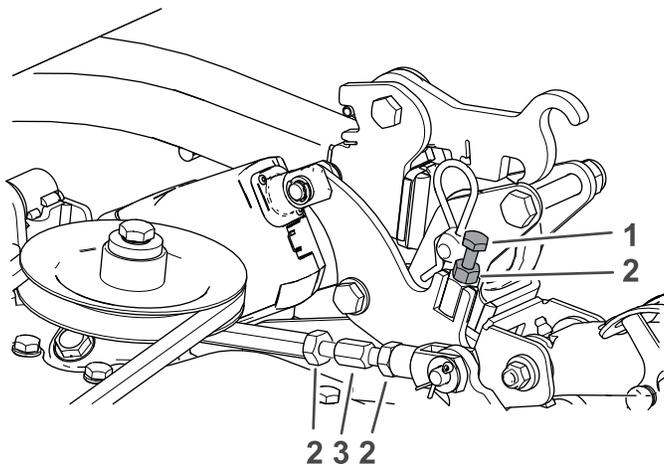
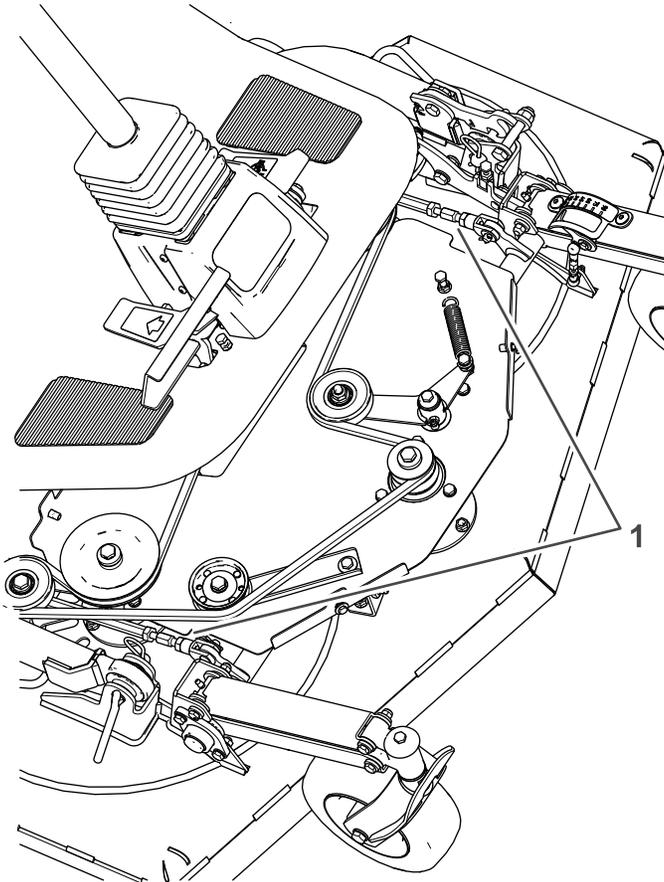

Figure 100
Figure 101
- B. To raise the front of the machine to 64 mm (2-1/2 inch), loosen the jam nut and adjust the adjustment bolt; refer to Figure 100.
C. To raise the back of the cutting-unit, loosen the jam nuts for the tie-rods on both sides of the cutting unit (Figure 100 and Figure 101).
6. Tighten the jam nuts for the tie-rods (Figure 100).